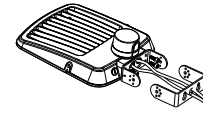

Figure 11
- Step 1: Remove the bracket mounting screws on the fixture and run the wires through the bracket. (Figure 11)